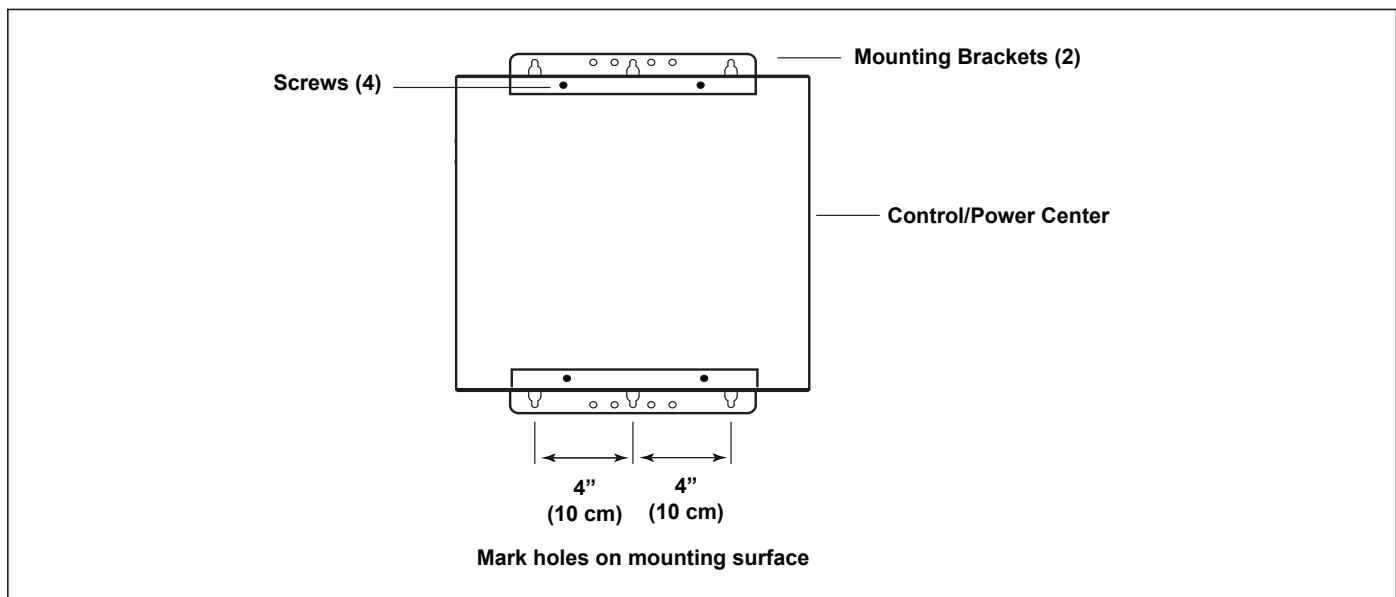

Figure 7. Power Pack Installation
1. Locate the control/power center at least five (5) feet or more away from pool/spa and five (5) feet off the ground. All national, state, and local codes are applicable.
2. The control/power center comes with two (2) full length, heavy duty mounting brackets *fastened* to the back of the power center during shipping. Remove the four (4) screws that are holding the two (2) brackets and the cardboard shipping cover in place (see Figure 7). Remove and discard the cardboard.
3. Using the top mounting bracket as a guide, mark three (3) holes on the mounting surface where the power center will be installed. Drill the holes in the mounting surface.